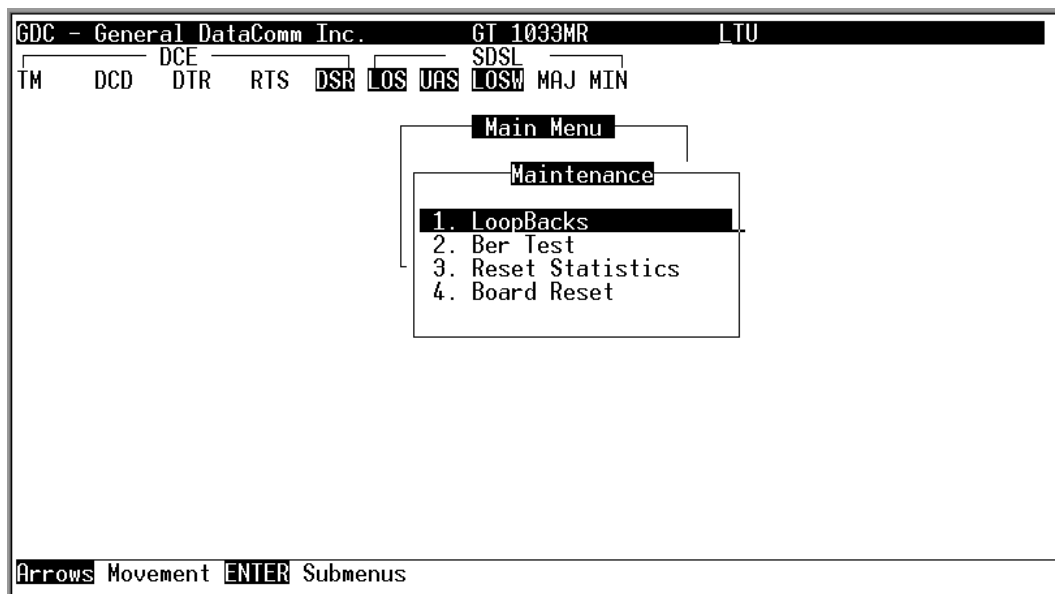

Figure 4-1 Maintenance Menu
The Maintenance Menu is used to perform maintenance and troubleshooting activities. To open the Maintenance Menu, select item 3 on the Main Menu. Figure 4-1 illustrates the Maintenance Menu.